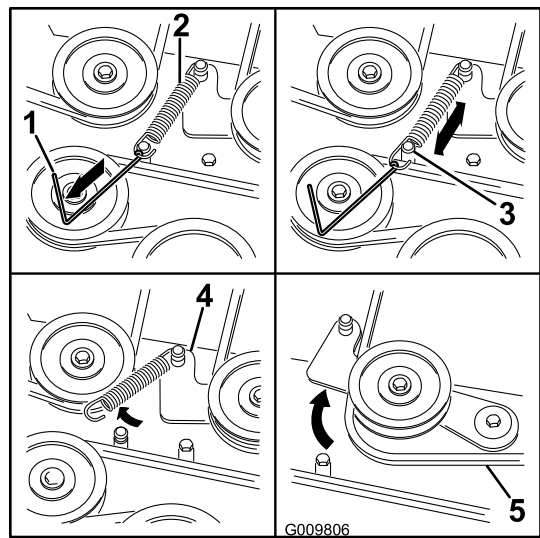

Figure 69
6. Using a spring removal tool, (Toro part no. 92-5771), remove the idler spring from the deck post to remove tension on the idler pulley (Figure 69).
9. Install the new belt around the mower pulleys and the clutch pulley under the engine (Figure 69).
10. Using a spring removal tool, (Toro part no. 92-5771), install the idler spring over the deck post and placing tension on the idler pulley and mower belt (Figure 69).